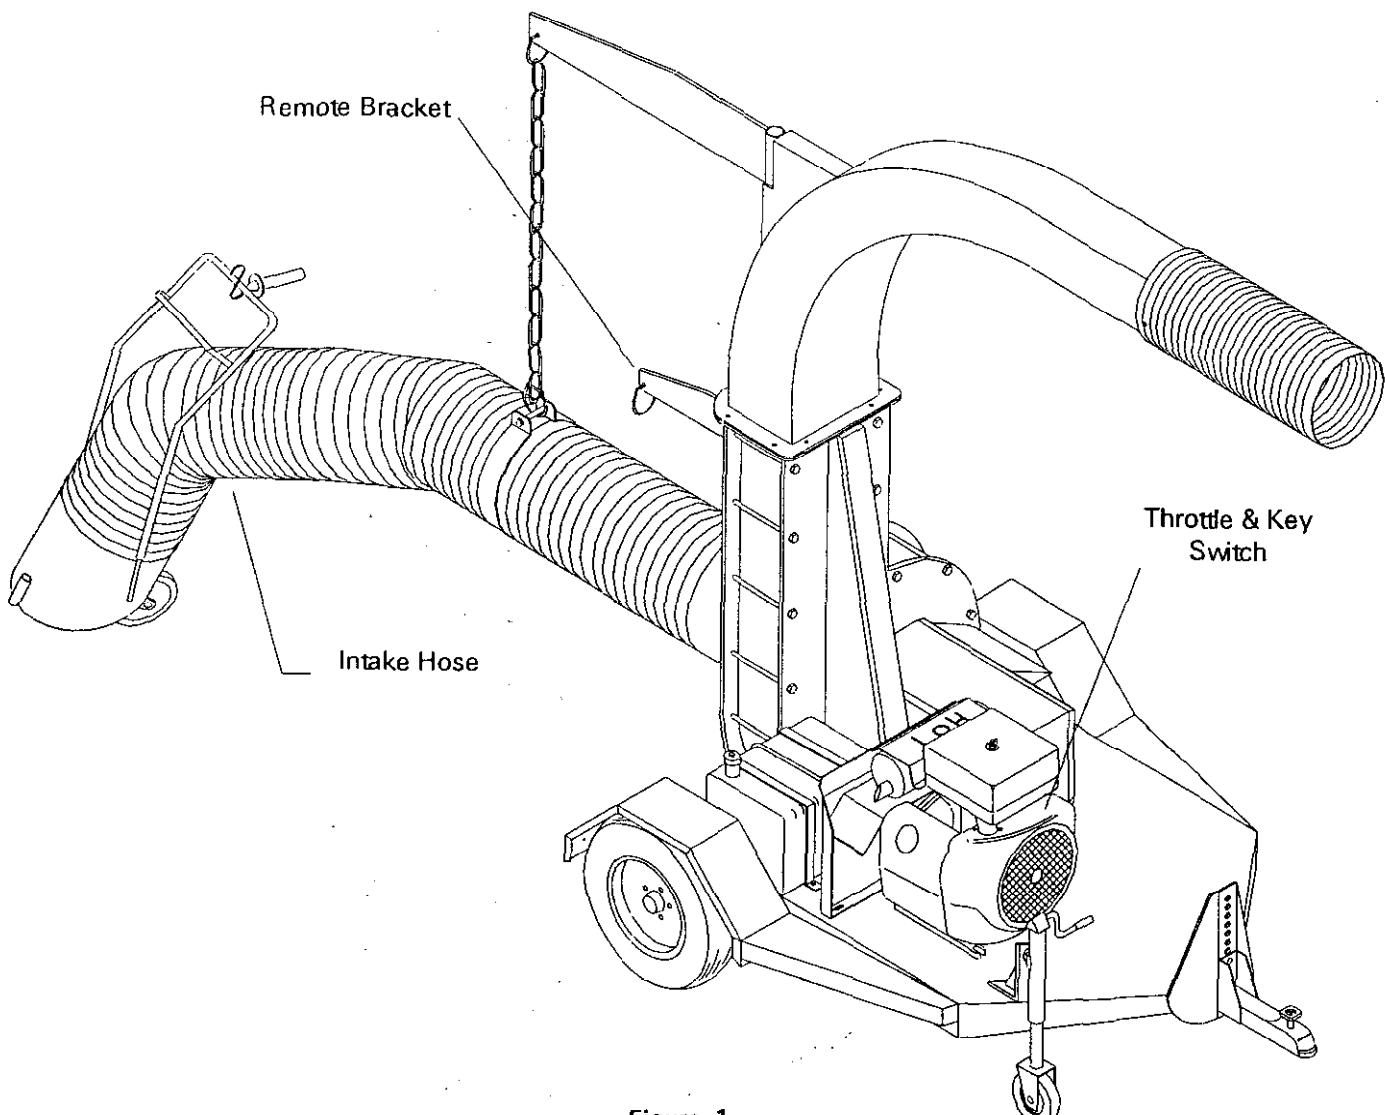

Figure 1
THROTTLE CONTROL (Fig. 1)
KEY SWITCH (Fig. 1)
INTAKE HOSE (Fig. 1)
5. Remove the hose assembly from the remote bracket (See Fig. 1) and pin and begin picking up debris.